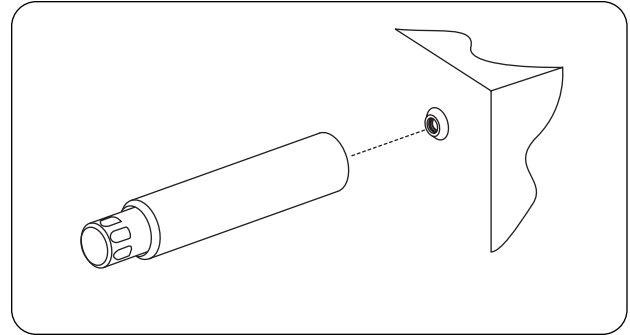

Figure 21. Optional Stainless Steel Adjustable Legs
2. Thread the adjustable legs into the existing leg holes on the bottom of the unit. (See Figure 21.)